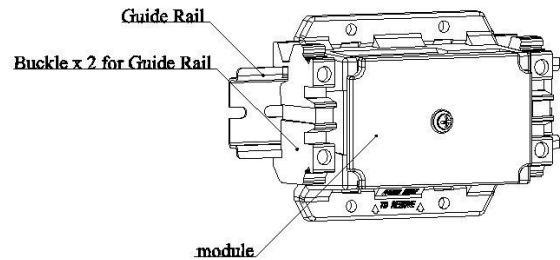

Fig. 2
- 2) The module can be mounted on a guide rail as shown on Fig2.